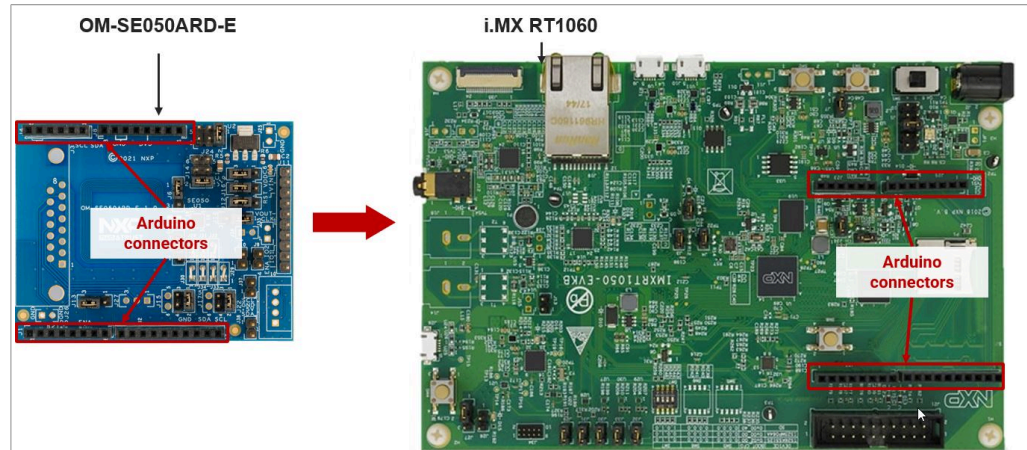

Figure 2. Plug OM-SE05xARD and i.MX RT1060 boards
2. The OM-SE05xARD, and i.MX RT1060/1170 boards can be directly connected using the Arduino headers available in both boards. Figure 2 shows how to connect the OM-